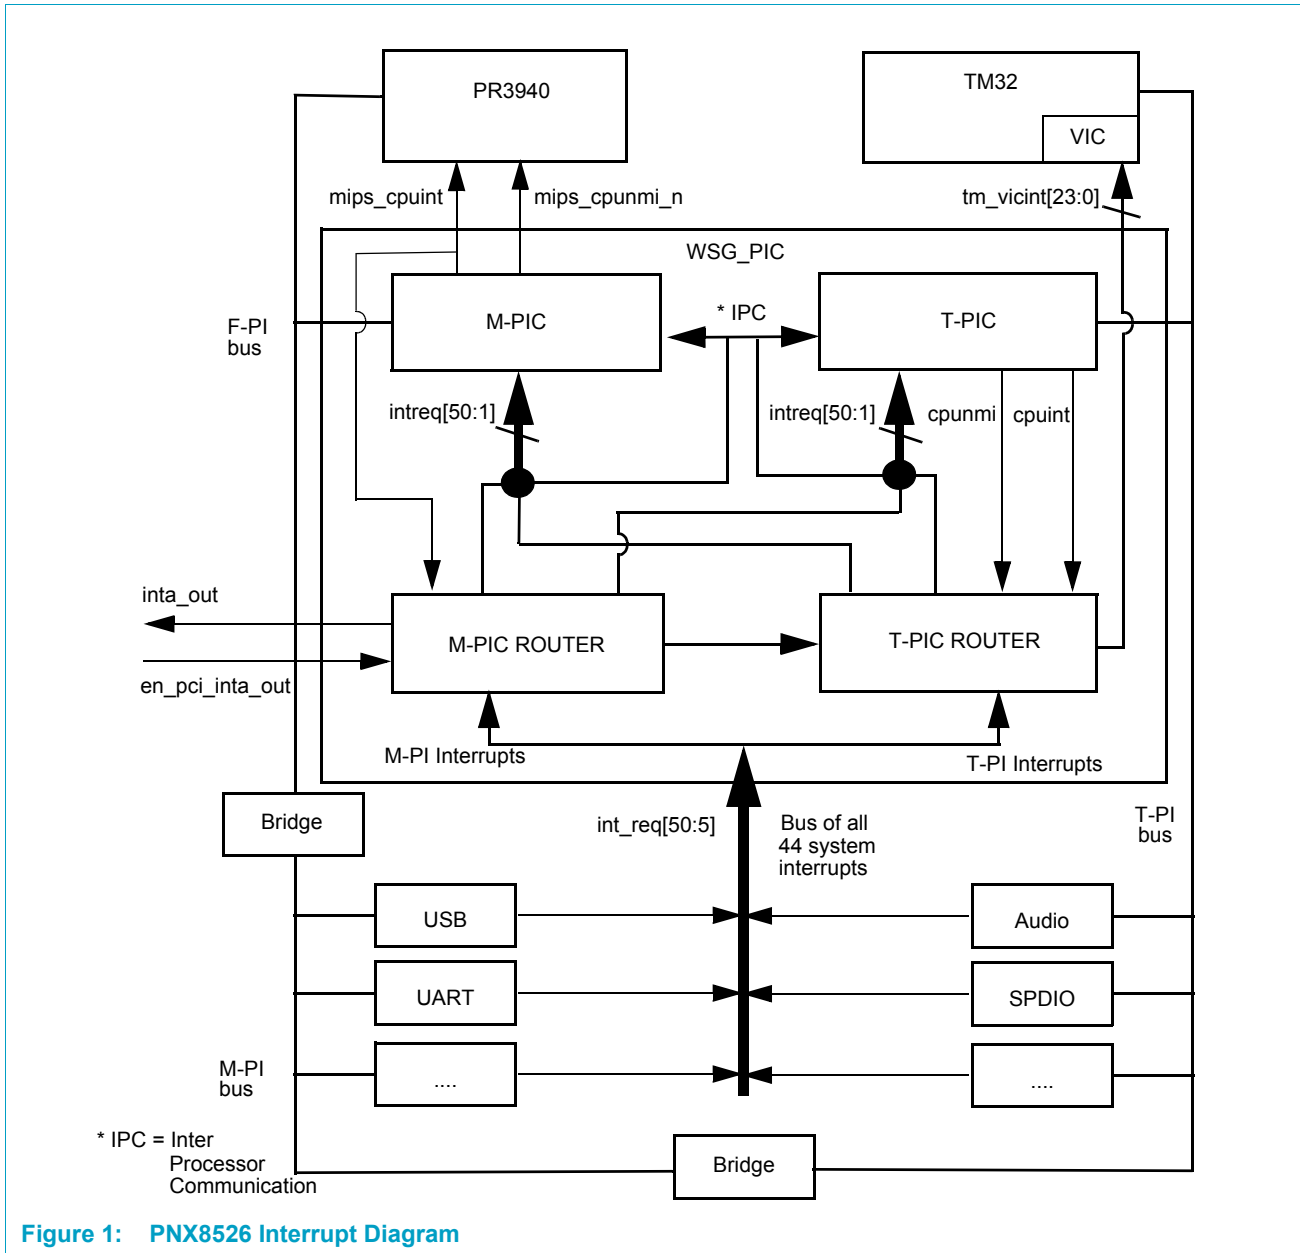

Figure 1: PNX8526 Interrupt Diagram
The overall interrupt architecture in the PN8526 is shown in Figure 1.
**cpuint** is a level based signal that is asserted when an intreq[i] is pending and its priority is greater than the priority limiter. This PIC output is either sent to the internal processor or to an external processor via PCI. Refer to Figure 1.